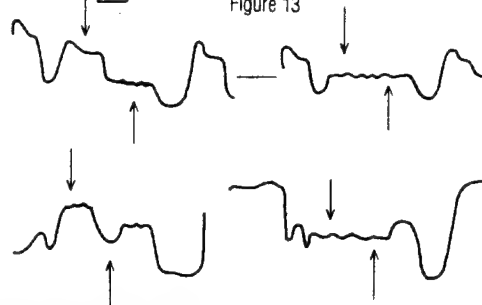

Figure 14
- 2— The signals which are indicated with arrows in Figure 14 are adjusted so that they come to same level.